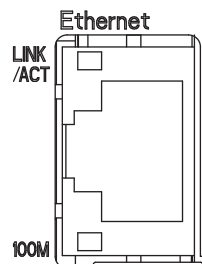

**Figure 5 MECHATROLINK-III IMI Connectors.**
*Figure 5* illustrates connectors used to connect MECHATROLINK-III communications devices. CPU options with MECHATROLINK-III RJ45 connectors (not shown) are also available
Figure 5 illustrates the connector used to connect a USB memory device.